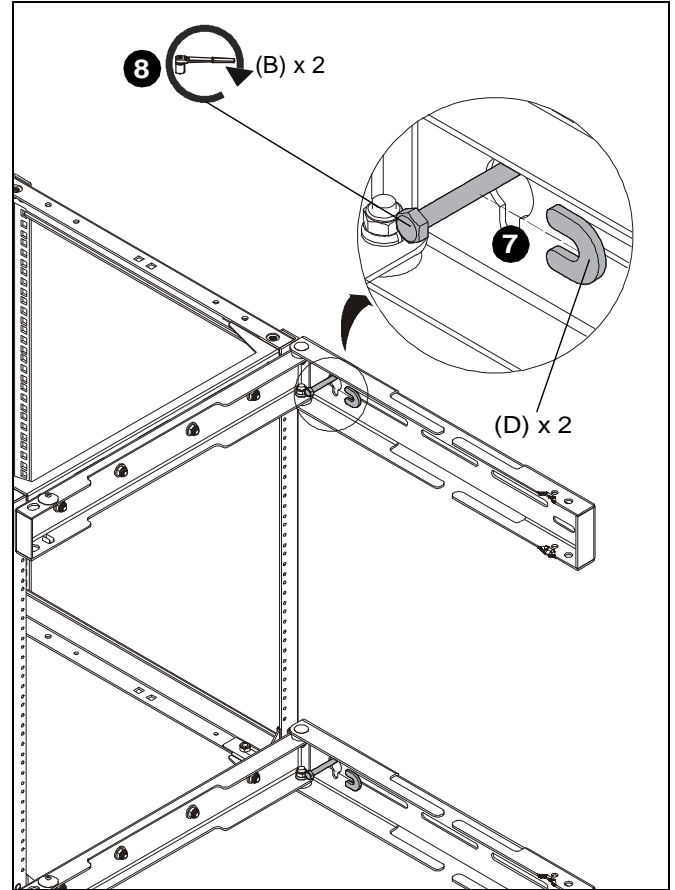

Figure 9
- Slide two "U" washers (D) onto lag bolts (B). (See Figure 9)
- Tighten two lag bolts (B) until "U" washers (D) are pulled firmly against the brace. (See Figure 9)